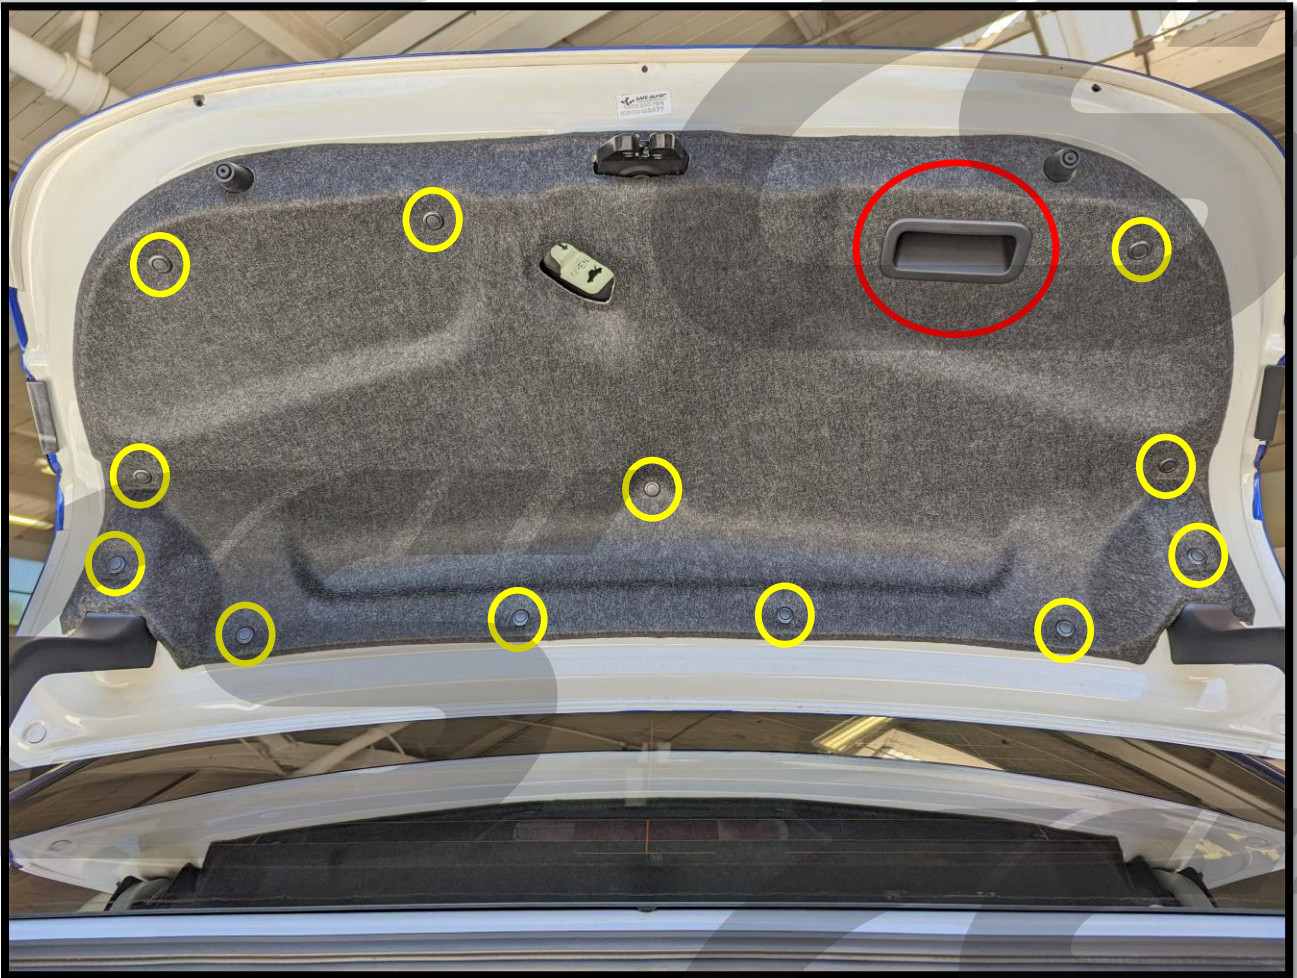

Figure 3c
- e) Reinstall the trunk lid trim piece and clips (if removed) as shown in **Figure 3c** with the yellow circles along with the handle that is circled in red.